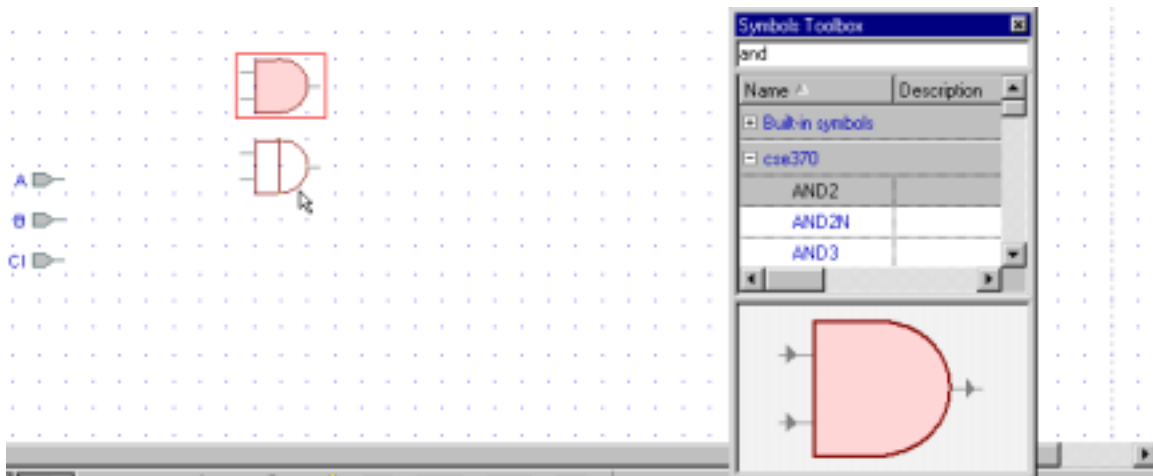

Figure 18
5. Active-HDL uses the standard Windows user-interface to select, move, and copy items in the schematic (i.e. drag, Ctrl-drag for copying multiple parts, Ctrl-z for undo, etc.). Figure 18 is an example of Ctrl-drag.